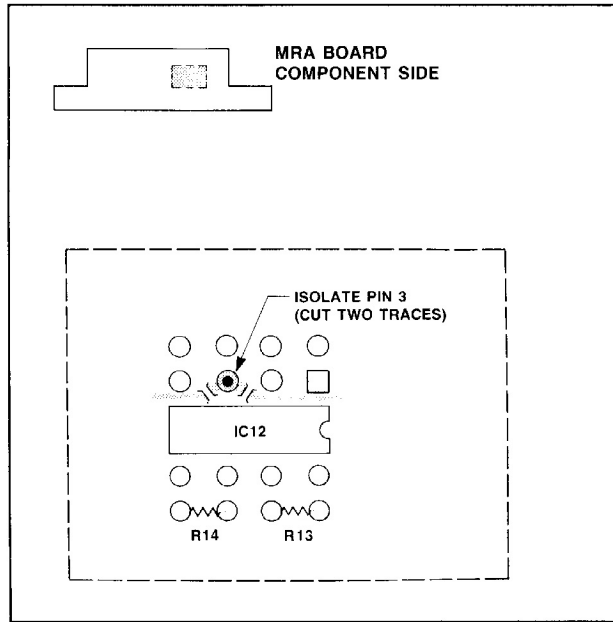

Figure 2
**Component Side (See Figure 2.)**